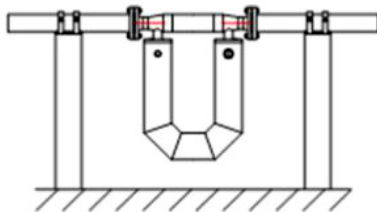

Figure 1
1. The meter should be installed downward when measuring liquid flow (Figure 1), so that air cannot get trapped inside the tubes.